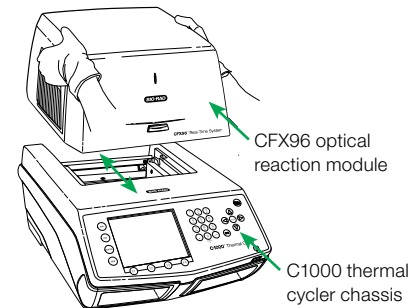

Fig. 1. Lifting the CFX96 optical reaction module onto the C1000 thermal cycler chassis.
2. Remove the instructions overlay from the C1000 chassis. Lift the CFX96 module using the handle indents above the side air vents, as shown in Figure 1.